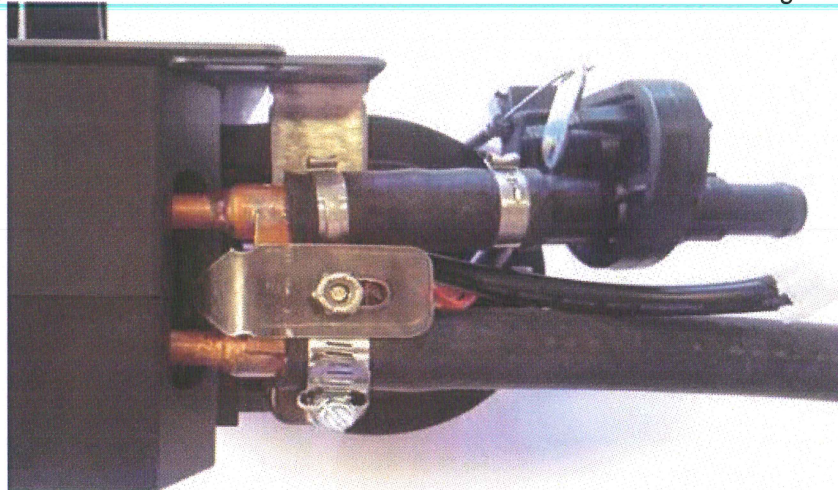

Figure 5
15. Take the heater support brackets and install the U-Nuts onto the bracket as shown in Figure 5.